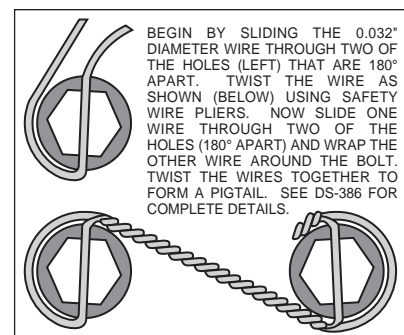

Figure 3. Safety Wire Diagram
- The flat caliper mounting bracket (1) should be installed first with clean, dry threads on the mounting bolts. Install the bracket by sliding bolt (2) through washer (3) through the top hole of the mounting bracket (1) and into the upper hole on the spindle. Slide bolt (4) through the small hole on the spindle from the backside and through the corresponding hole on the bracket (1). Slip flat washer (5) onto the bolt and secure with nut (7). Finger tighten only at this time. The bracket must tighten squarely against the outboard side of the spindle body. Inspect for interference from casting irregularities, machining ridges, burrs, etc. Later, after the caliper, pad, and rotor alignment has been checked, and any necessary shims have been put in place, the threads of the mounting bolts should be coated with red *Loctite*[®] 271 and bolt (2) torqued to 120 ft-lbs. and bolt (4) torqued to 77 ft-lbs.
- Install wheel studs (8) into the hub (9). Torque to 77 ft-lb. **NOTE:** There are two five lug patterns in the hub (5 x 4.50 and 5 x 4.75). Make sure of the correct hole pattern for the correct wheel application before installing studs into hub.
- Pack the large inner bearing cone (10) with high temperature disc brake bearing grease (available from your local auto parts store) and install into the backside of the hub (9).
- Install the grease seal (11) by pressing into the backside of the hub (9).
- Pack the small outer bearing cone (17) with high temperature disc brake bearing grease and install into front of hub (9). Slide the hub assembly (8, 9, 10, 11 and 17) onto the spindle. Secure using spindle washer (18), stock adjusting nut and nut locking device. Adjust bearing using a 12" wrench to tighten the adjusting nut while turning the rotor. When the rotor binds slightly, all the bearing parts are seated properly. Back of the nut 1/6" to 1/4" of a turn or enough to allow 0.001" to 0.007" end play. Lock the nut with a new cotter pin. **WARNING:** Failure to back off the adjusting nut may cause the bearing to run hot and be damaged, which could cause the wheel to lock or come off during operation, creating a risk of serious bodily harm.
- Install the o-ring (19) on the dust cap (20), and screw dust cap assembly onto the hub (9). Friction created by the o-ring (19) on the dust cap (20) keeps it from unscrewing.
- With the larger I.D. side of the rotor (12) facing away from the hat (13), bolt rotor (12) to hat (13) through the backside of the rotor using washers (14) and bolts (15). Using an alternating sequence, apply red *Loctite*[®] 271 to the threads and torque bolts to 155 **in-lb**. For an added measure of security, the bolts may be safety wired using standard 0.032 inch diameter stainless steel safety wire as shown in Figure 3. Please refer to Wilwood's data sheet DS-386 for complete safety wire installation instructions.
- Slide the rotor/hat assembly over the studs (8) in the hub (9) taking care to align the small countersunk holes in the hat (13) with the small threaded holes in the hub (9). Install three flat head socket head screws (16) through the small holes in the hat (13) and torque to 85 **in-lb**.